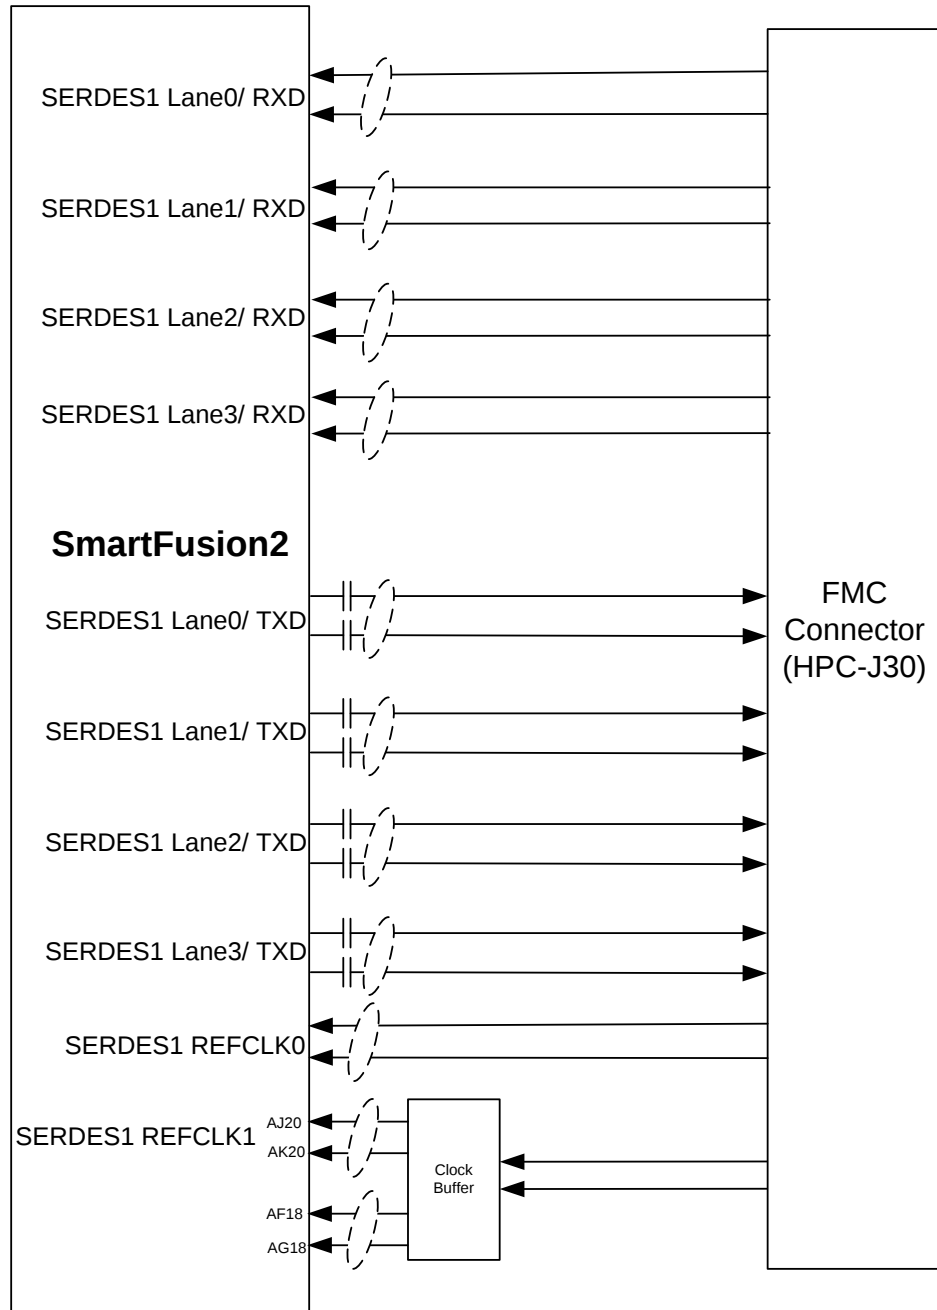

Figure 8 • SERDES1 Interface
- SERDES1 reference clock 1 is routed from the FMC connector through the Clock buffer. The output of the clock buffer is additionally routed to the SmartFusion2 Advanced Development Kit board pins - AF18 and AG18. Refer to Figure 8.